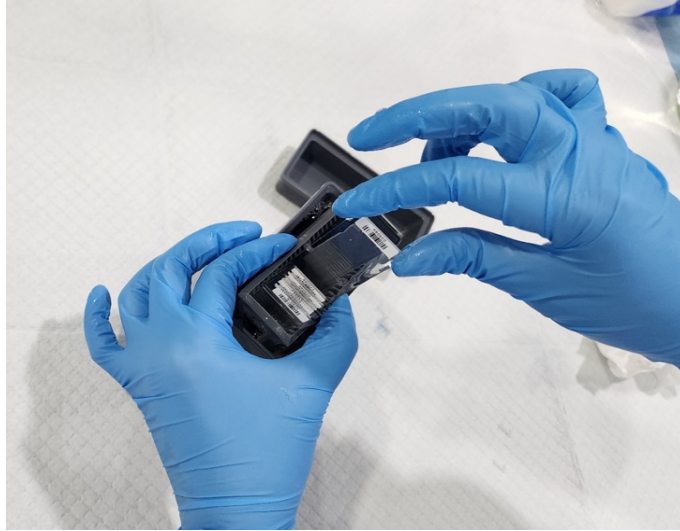

Figure 7: Wash 3-Transfer all slides into slide staining dish with a rack containing 250 ml of SAB.
7. Add the remaining slides sequentially until all slides have been transferred. Ensure the slides are all in the same orientation and order. Replace the slide rack in buffer between the additions of each slide (Figure 7).
1. When the 3rd washing step is nearly complete, add the detection antibodies in the volumetric flask containing 250 ml of SAB (as per following volume of stock reagents) and mix the detection antibodies solution well. Pour the solution into a clean slide staining dish (without the rack) and cover until required (Figure 7).